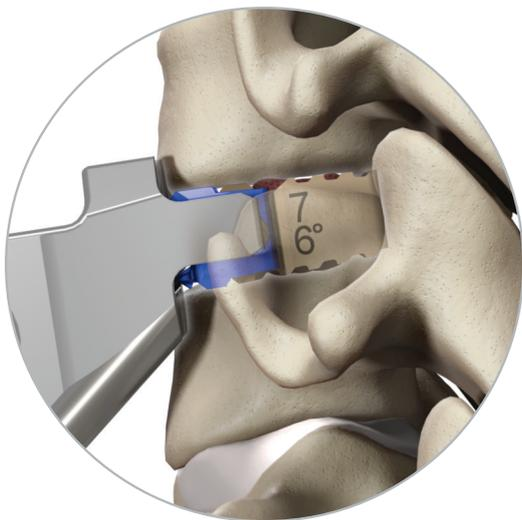

Figure 27
- Ensure that the implant fits snugly between the adjacent vertebrae, and then release distraction while leaving the ATO inserter guide attached to the implant construct. The modular handle can be temporarily removed from the inserter to increase visibility for screw preparation and delivery (Figure 27).